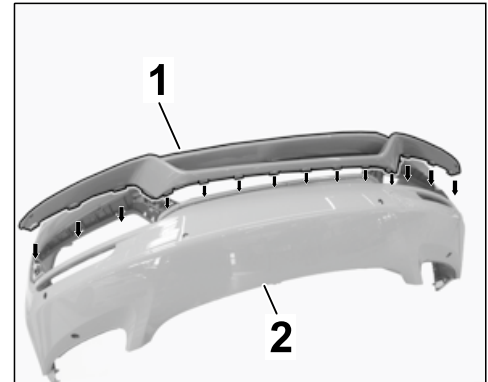

Figure 21
- 5.5 Clip front apron trim $\Rightarrow$ *Figure 21 -1-* into front apron $\Rightarrow$ *Figure 21 -2-* ($\Rightarrow$ *Figure 21 -arrows-*).